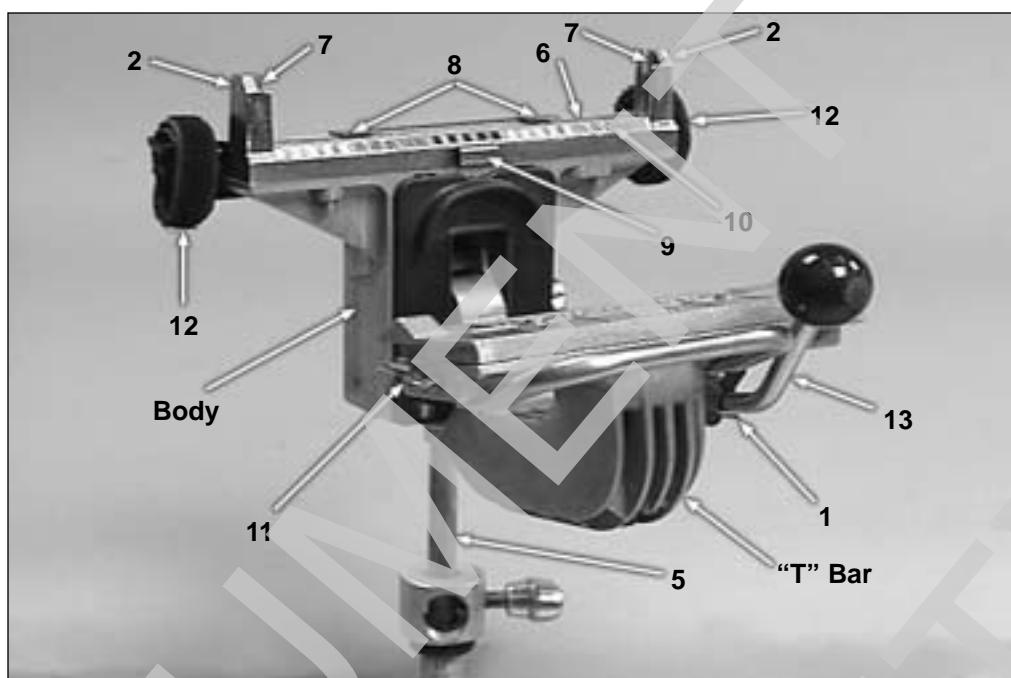

Figure 1
1. Handle Retaining Clip (fig. 1 & 2)
2. Vertical Side Posts (fig. 1)
5. Uni-Presser Support Rod (fig. 1)
6. Module Assembly Channel (fig. 1)
7. Module Guides (fig. 1)
8. "L" Clip Module (fig. 1)
9. "L" Clip Release Knob (fig. 1)
10. Color Code Guide (fig. 1)
11. Cutter Blade Holder Assembly (fig. 1)
12. Conductor Group Holder (fig. 1, 2 & 3)
13. Handle (fig. 1 & 3)
1. Set group holders (fig. 1 #12) 38mm (1 1/2") above the position of the cable units to be spliced.
4. Insert an index strip between the vertical side posts. (fig. 1 #2) The index strip cathedral windows and latch locks should face the operator/front.
5. Push the "L" clip knob inward to allow the index strip to seat along the module assembly channel and locate under the spring loaded "L" clips (fig. 1 # 8 & 9)
6. Secure the 25-pair group through the conductor group holder. (fig. 1 #12) and dress individual pairs into the cathedral windows of the index strip. Each pair is divided by a colored peak projection. To assist correct assembly, a color code guide (fig. 1 #10) is located on the operator side of the tool.
9. Position the "T" bar upright above the index strip between the vertical side posts. (fig. 1 #2)
20. Insert a cap between the vertical side posts above the module body. (fig. 1 #2). Push down on the cap to lightly engage the module body. Ensure the cap latches face the operator/front.
22. Return the handle to the upright position and engage it firmly within the handle retaining clip. Return the "T" bar clear of the module assembly area. Push the "L" clip to release the module. (fig. 1 #9) The 25 pair straight splice is now complete.
29. To remove the module, push the "L" clip (fig. 1 #9) in and lift clear of Uni-Presser. The half tapped module is now complete.